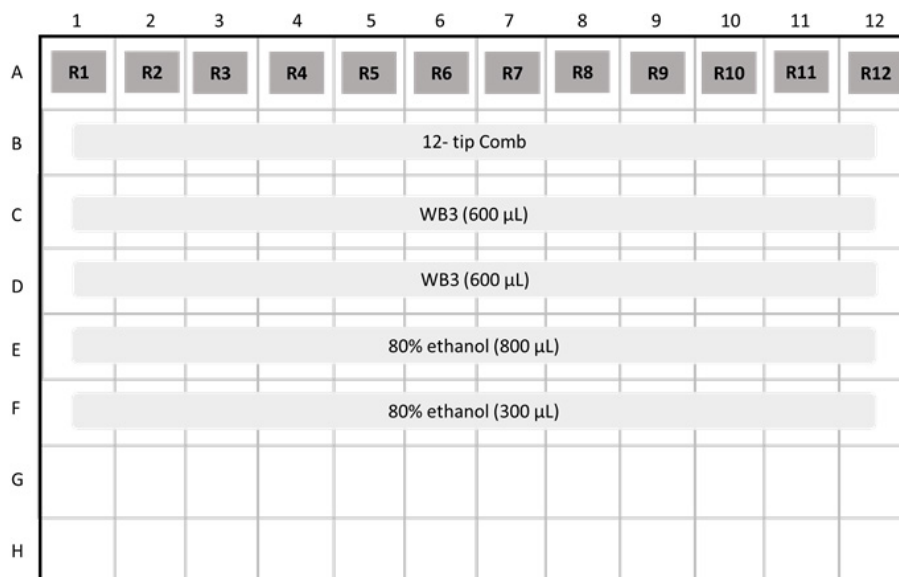

Figure 1. RNA Plate Layout.
8. Set up the remainder of the RNA Plate as shown in Figure 1. (Use as many wells as needed per the number of samples.)